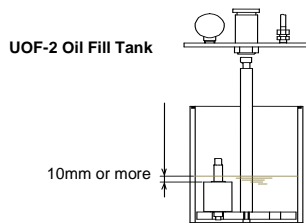

Figure 4
12. Put the pulse unit into the UOF-2 vacuum fill tank and pour the oil specified by URYU into the tank so that the oil level is at least 10mm above from the top of the liner casing (see figure 4).